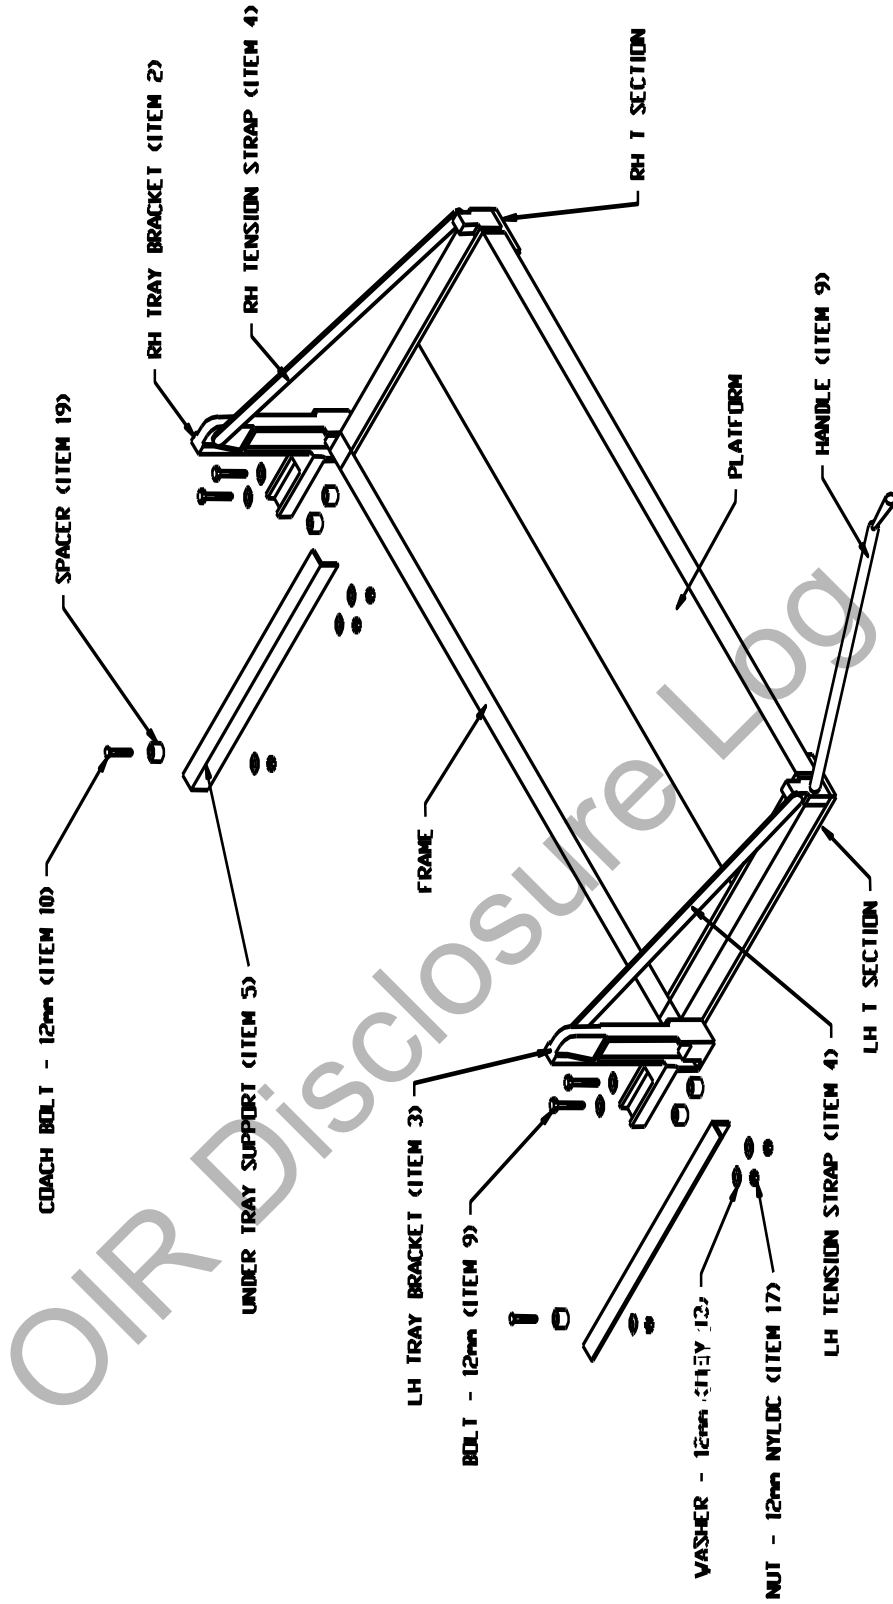

Figure 1 - LycoLoader Assembly Drawing
* Refer to Figure 1 on Page 8 for further details.